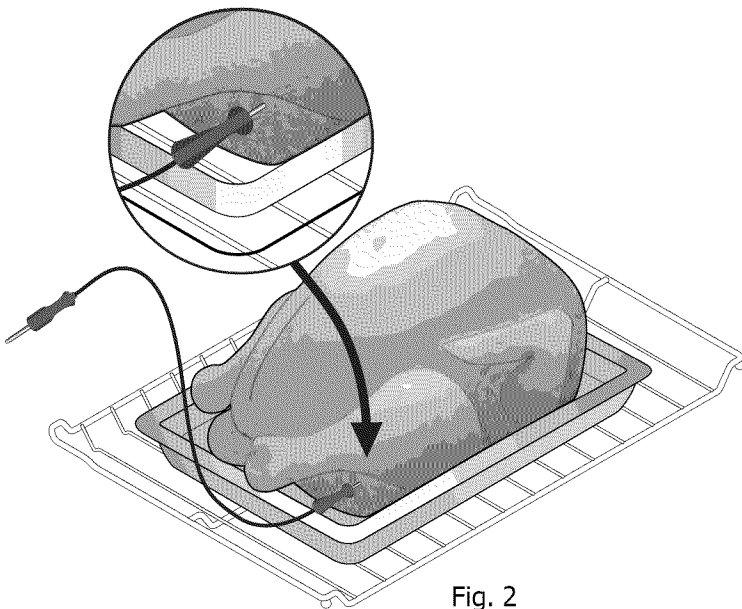

Fig. 2
- For whole poultry or turkey, fully insert the probe sensor into the thickest part of inner thigh, just below the leg (See Fig. 2).